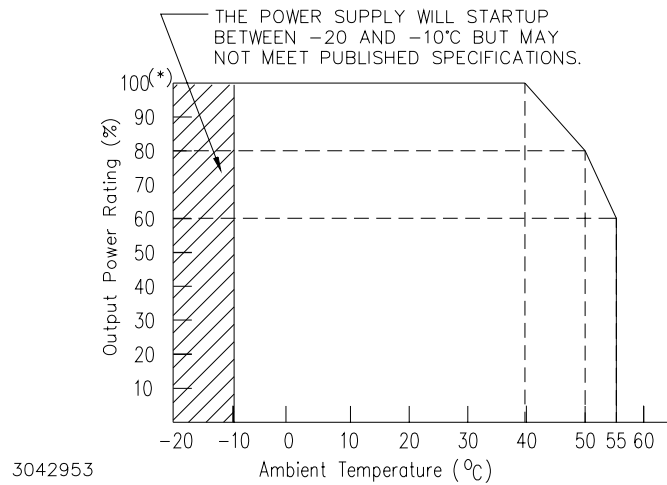

FIGURE 2. POWER RATING VS. TEMPERATURE
- (1) Square type. After cause is removed, output voltage restored automatically.
- (2) When overvoltage is detected, output is shut OFF. Recovery is by removing power and reapplying power after approximately 30 seconds or by opening and reclosing the RC terminals .
- (3) Ripple and noise levels above are satisfied when conditions are 0 to 100% load, 0 to 40°C (load is derated from 40 to 55°C, see Figure 2), and bandwidth $\leq 100\text{MHz}$.
- (4) See Figure 2 for power derating.
- (5) Refer to Table 4 for minimum conditions required to maintain proper operation of alarm relay and visual LED indicator.
- (6) 0V output refers to logic 0: 0-0.4V d-c